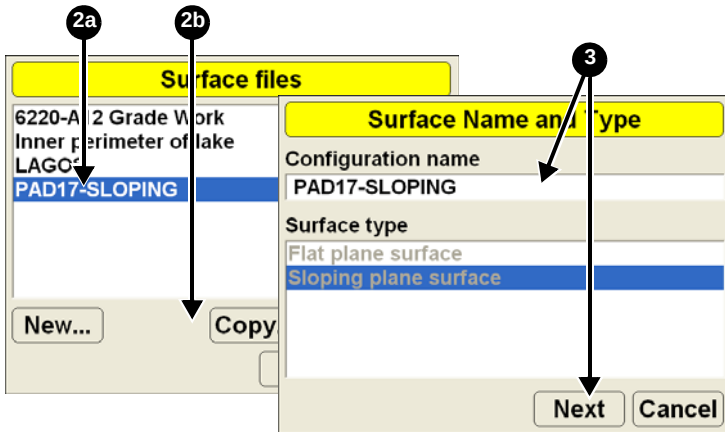

Figure 3-17. Editing a Plane Surface File
2. Select the desired plane surface file and press **New** (Figure 3-17).